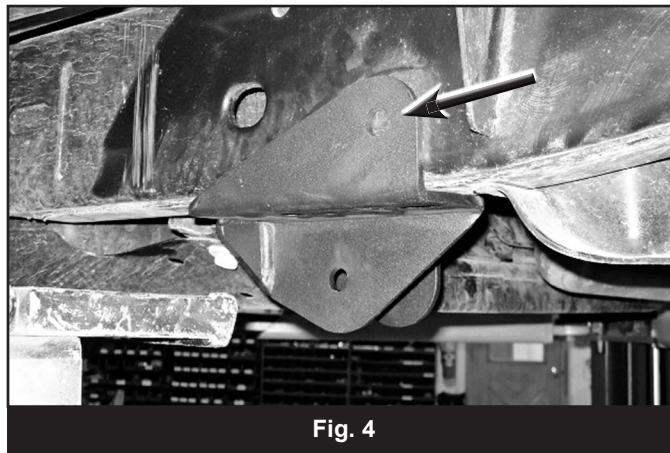

Fig. 4
6. With the bracket positioned flush to all the mounting surfaces, mark the outer mounting hole to be drilled in the frame (Fig 4). Remove the bracket and drill a $\frac{1}{2}$ " hole at the mark.